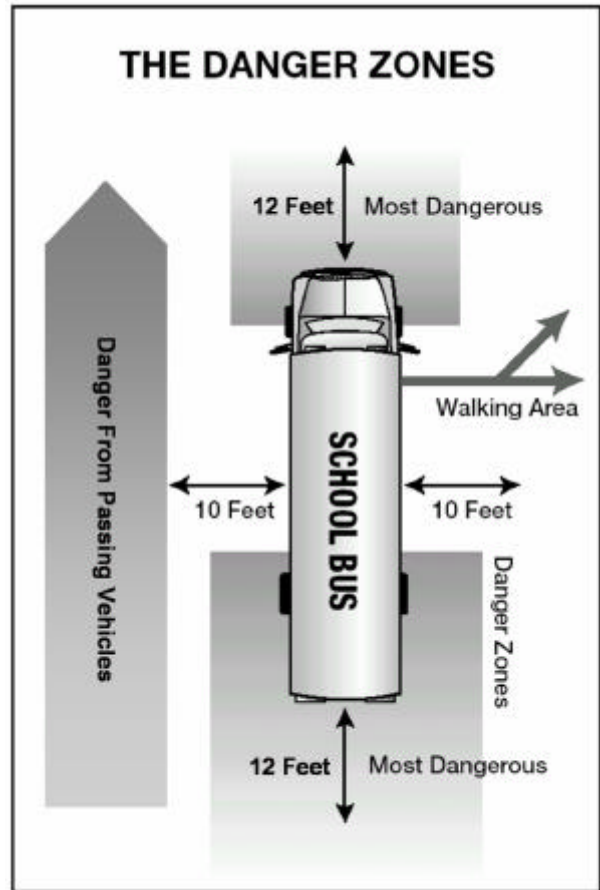

Figure 10.1
- Page 10-1 (figure 10-1) – The Danger Zones
The danger zone is the area anywhere outside of the bus where children are in the most danger of being hit, either by another vehicle or their own bus. The danger zones extend as much as 30 feet from the front bumper, 10 feet from the left and right sides of the bus and 10 feet behind the rear bumper of the school bus. In addition, the area to the left of the bus is always considered dangerous because of passing vehicles. Figure 10.1 illustrates these danger zones.